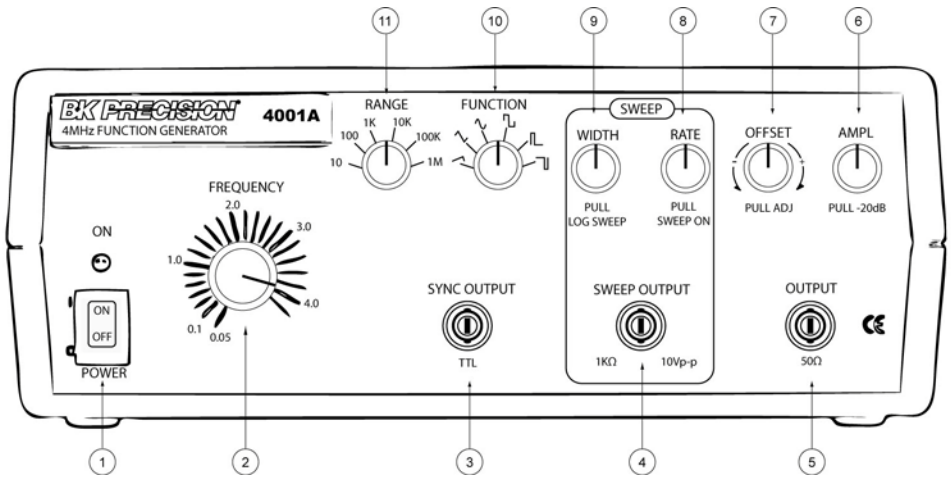
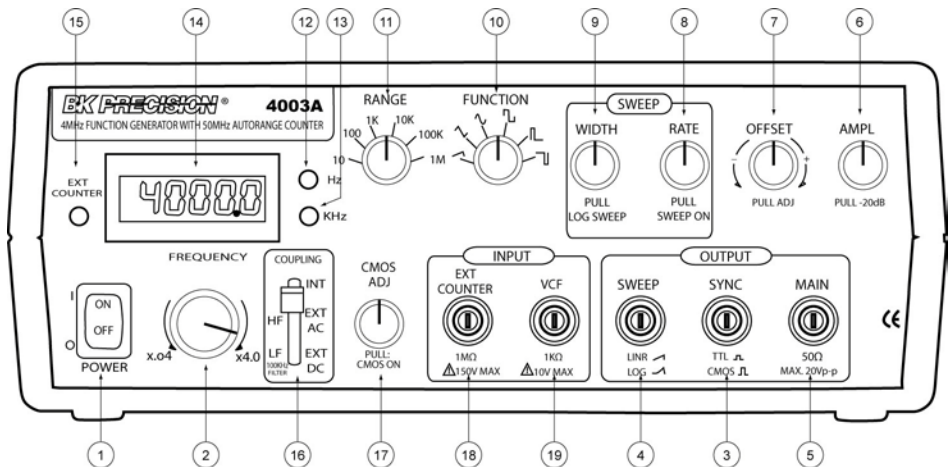

Figure 1 – Front Panel Controls (4001A)
Figure 2 - Front Panel Controls (4003A)
### 4.1 FRONT PANEL (Refer to Figure 1 & Figure 2)
**(Refer to Figure 2)**